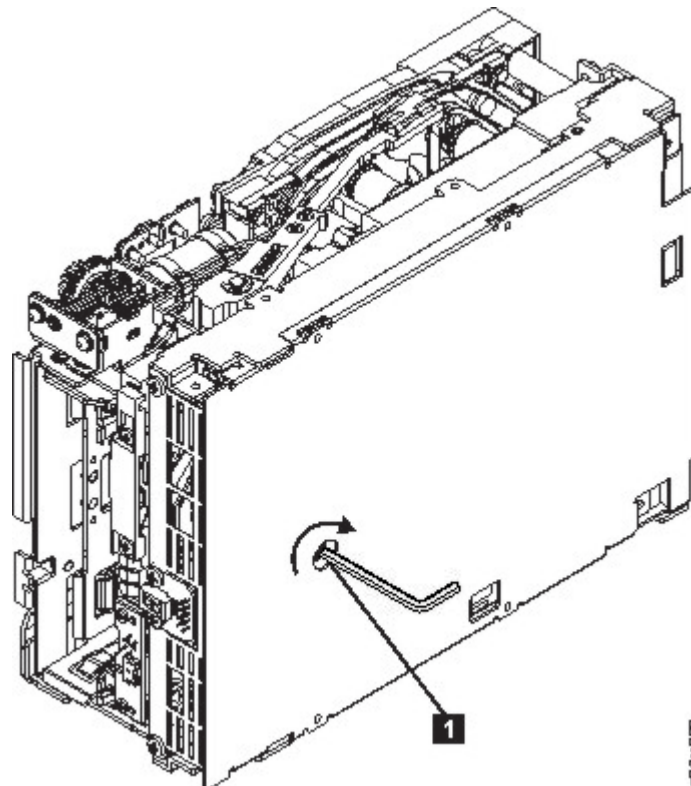

Figure 115. The hex wrench rewinds tape into cartridge
3. From the bottom of the drive, locate the access hole (**1** in Figure 115).
Note: Be sure to keep tension on the tape as the LBA is drawn into the cartridge by using a hex wrench as shown in Figure 115 on page 183.